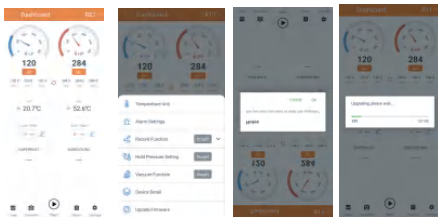

Figure 10 Device firmware upgrade
- 3.If the latest firmware needs to be upgraded,the device will enter the upgrade process ,and the interface will show that **Update...** (Figure 10) .